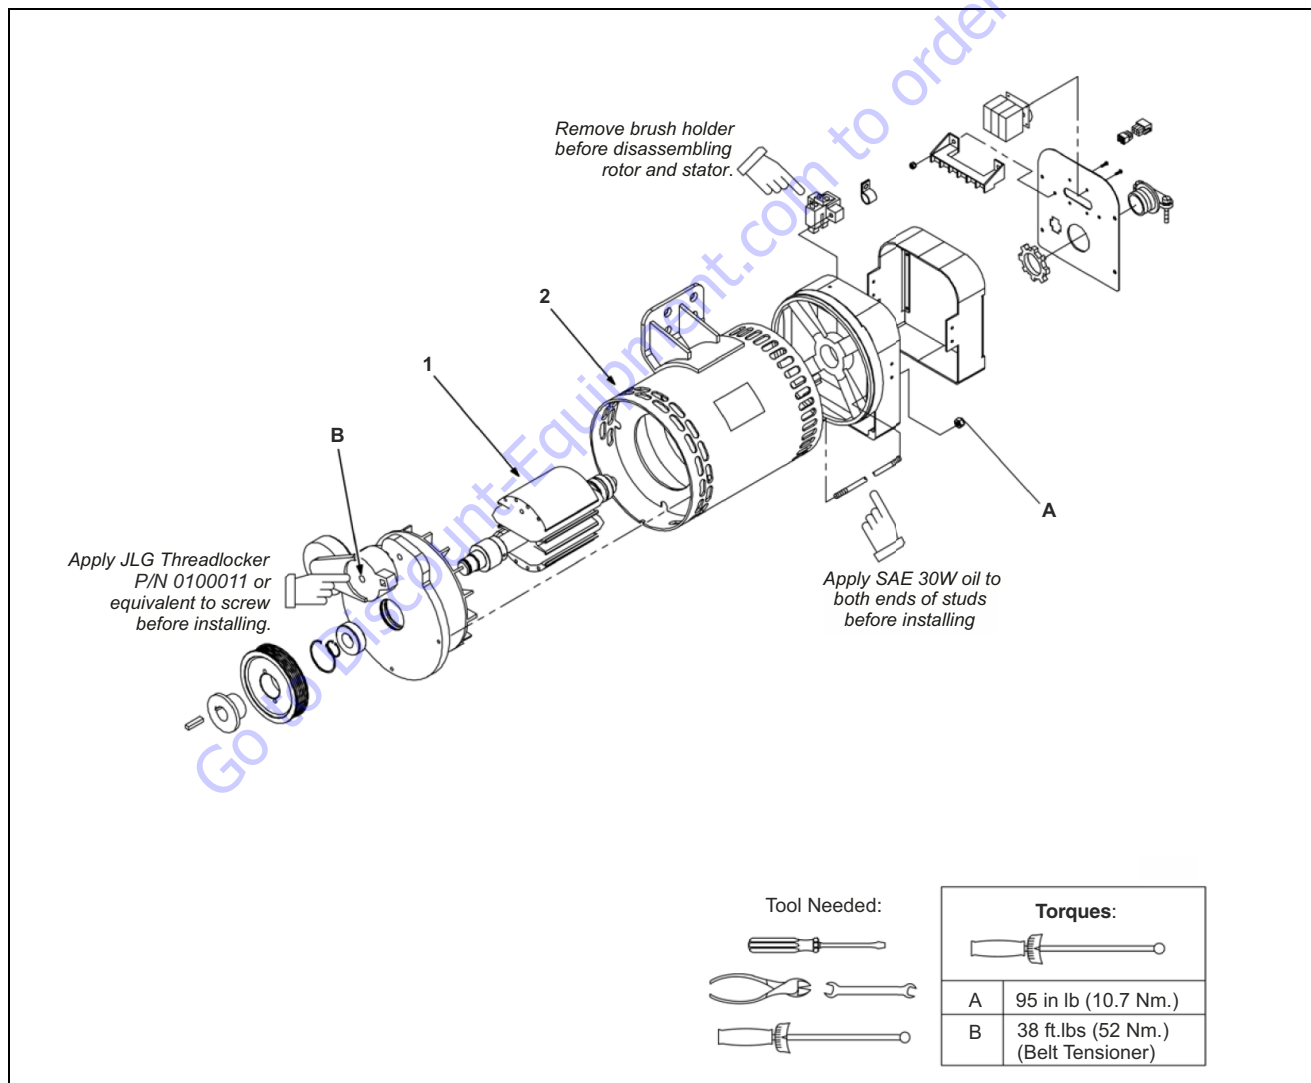

Figure 3-69. Generator Disassembly and Assembly
3. Disassemble generator parts shown in Figure 3-69.